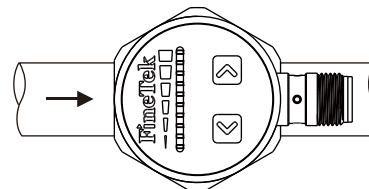

Fig. 4
4. Must secure the mounting is firmly locked to avoid the danger of liquid leakage from the pipe. To ensure the optimal sensitivity and response time, it should be installed in the direction as shown in Figure 4